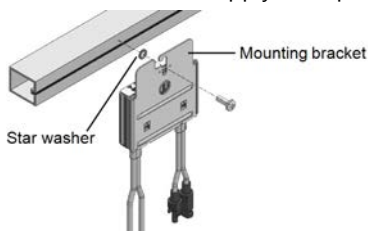

Figure 3: Power optimizer installation and grounding using a star washer
1. Determine the power optimizer mounting location and use the power optimizer mounting brackets to attach the power optimizer to the support structure (See *Figure 3*). It is recommended to mount the power optimizer in a location protected from direct sunlight. For frame-mounted power optimizers follow the instructions supplied with the optimizers, or refer to [https://www.solaredge.com/sites/default/files/installing\\_frame\\_mounted\\_power\\_optimizers.pdf](https://www.solaredge.com/sites/default/files/installing_frame_mounted_power_optimizers.pdf).